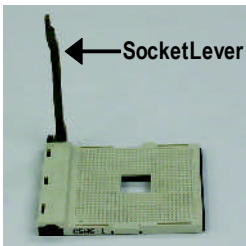

Figure 1.
Step1-1. First, check the processor pins to see that none are bent. Move the socket lever to the unlocked position as shown in Figure 1. (90° to the plane of the motherboard) prior to inserting the processor. The pin 1 location is designated on the processor by a copper triangle that matches up to a triangle on the socket as shown in Figure 2. Align the processor to the socket and gently lower it into place. Do not force the processor into the socket.